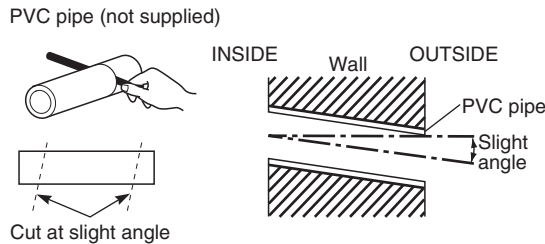

Fig. 3-21
- Measure the thickness of the wall from the inside to the outside and cut PVC pipe at a slight angle to fit. Insert the PVC pipe in the wall. (Fig. 3-21)